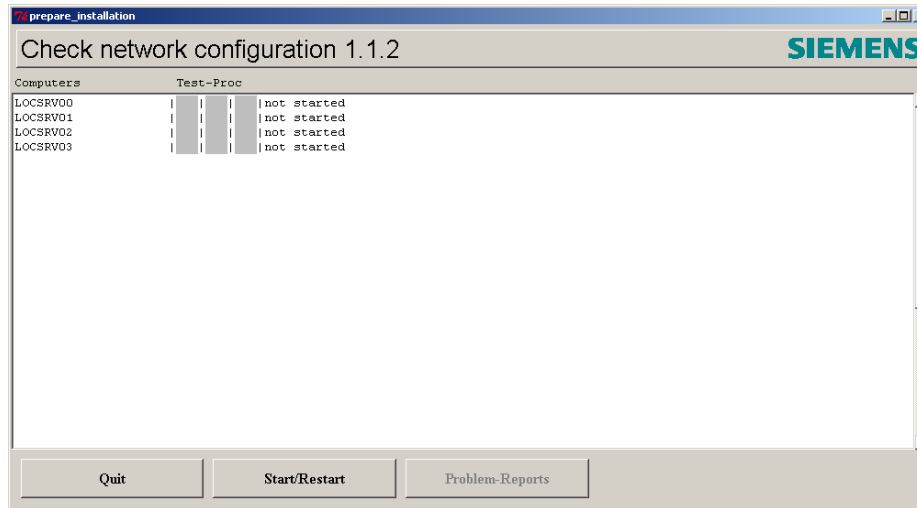

Figure 1-203. Connection Test Window
1. To start the test, click **Connection Test**. The Connection Test window is displayed (Figure 1-203).